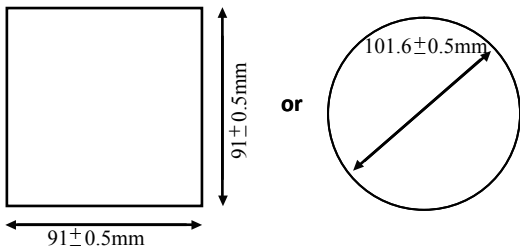

Figure 2: Recommended panel cut-out.
a) Insert the power meter through a 91mmx91mm or 101.6mm radius hole as shown in figure 2 below: